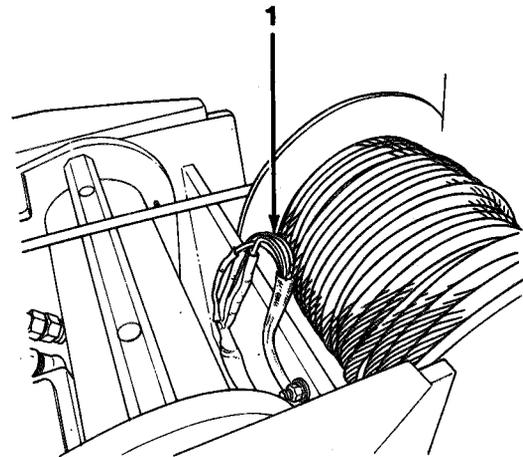

Figure 15-1
6. Tag and disconnect electrical wiring (1, Figure 15-1) from boom base, and insulate electrical connectors.